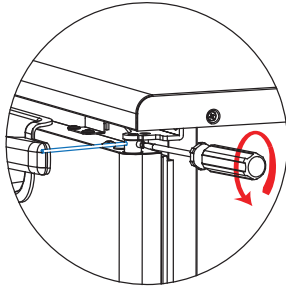

Fig 9-41
3. Turn and detach the tension pin by using the a (-) screwdriver. Avoid dropping or losing the pin. (Fig 9-41)